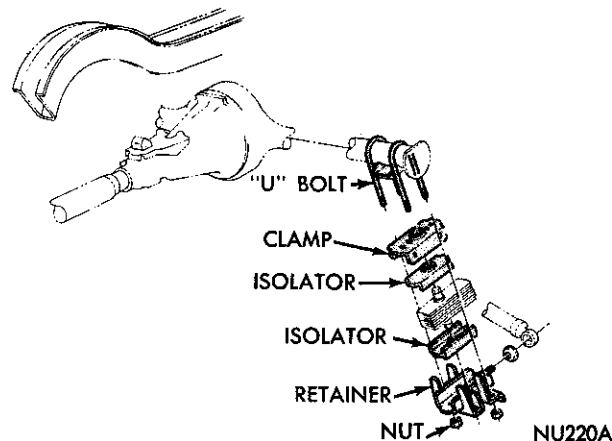

Fig. 7—Rear Spring (Chrysler-Imperial)
(1) Raise vehicle on hoist to a comfortable working position.
(2) Using floor stands under axle assembly, raise axle assembly to relieve weight on rear spring.
(3) Disconnect rear shock absorber at spring seat isolator retainer mounting stud.
(4) Lower axle assembly, permitting rear springs to hang free.
(5) Loosen and remove "U" bolt nuts and remove lower spring seat isolator retainer and isolator (Fig. 7).
(6) Remove "U" bolts and upper isolator and clamp.
(7) Loosen and remove bolts holding front spring hanger to body mounting bracket.
(8) Loosen and remove rear spring hanger bolts and let spring drop far enough to pull front spring hanger bolts out of body mounting bracket holes.
(9) Loosen and remove front pivot bolt from front spring hanger.
(10) Loosen and remove shackle nuts and remove shackle from rear spring.